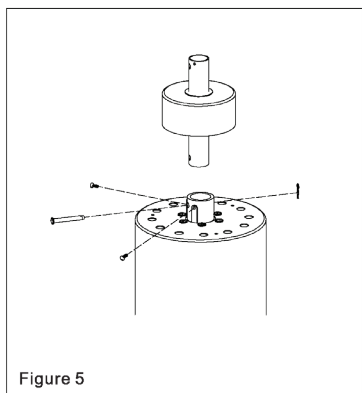

Figure 5
5. Loosen the two rod holder fixing screws and place the rod in the holder (figure 5). Pass the electrical wires and ground wire through the rod.